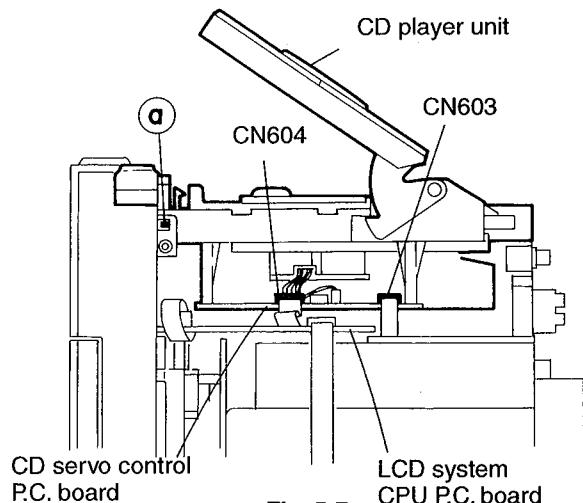

Fig. 5-7
(See Figs. 5-7 and 5- 8)
4. Disengage the left and right engagements **a** and **b** fixing the CD player unit by using a minus screw driver, etc. (See Figs. 5-7 and 5- 8).